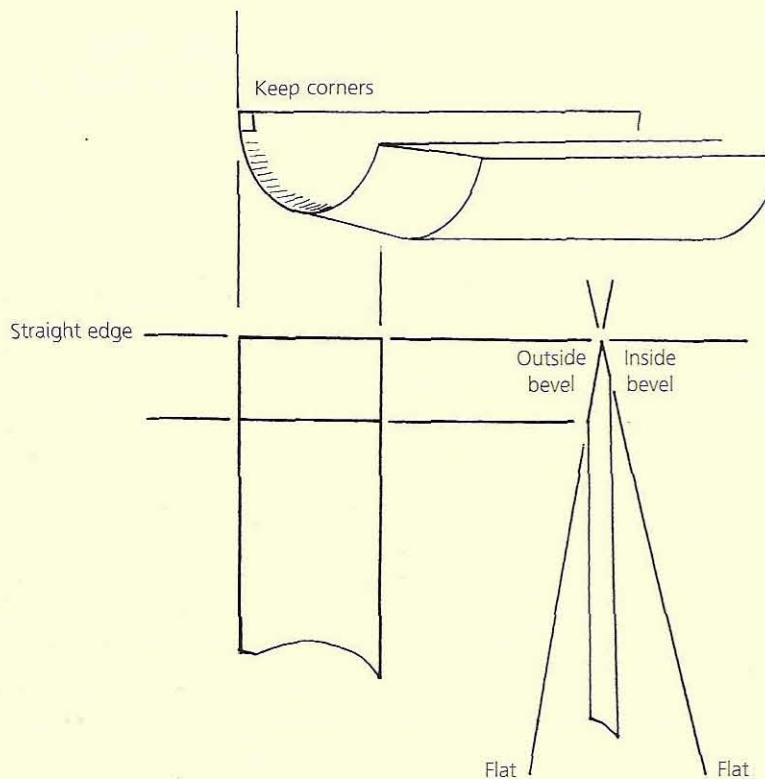

Fig 12.47 Features of a correctly sharpened gouge
- ⑥ Go now to the Arkansas benchstone and slipstones. Keeping the bevel flat, work the inside and outside bevels alternately, leaving any part of the edge which is thinner than the rest and specifically removing metal from the thicker parts. Occasionally push the edge into a piece of scrap wood to remove any wire edge.
- ⑦ As the line starts to attenuate, alternate a few sharpening strokes with pushing the edge into the wood. All the line should disappear more or less at the same time, leaving sharp corners and a straight edge (Fig 12.47).
- ⑧ Cut some wood across the grain and see how the resulting cut appears. If there are scratches, look for tell-tale spots of light on the cutting edge and remove them with a slip or benchstone as appropriate.